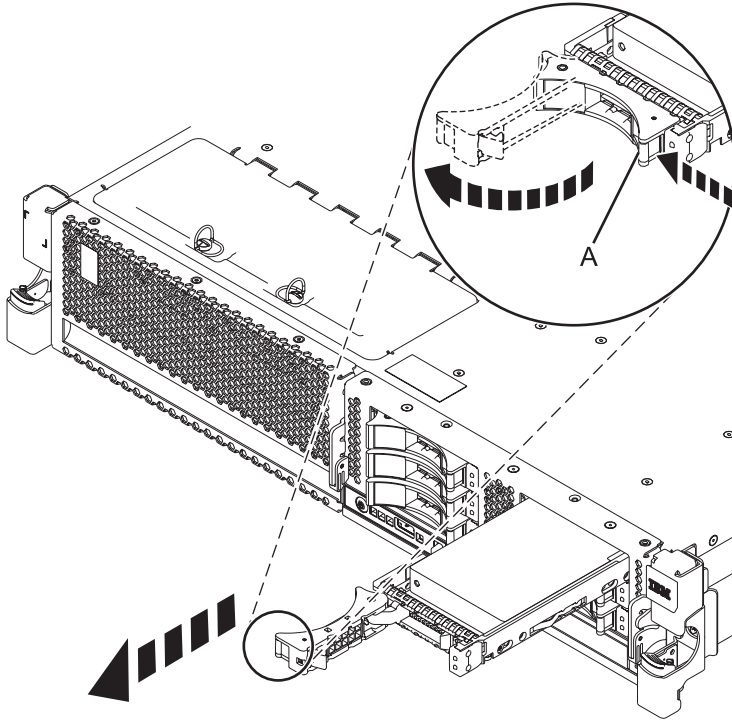

Figure 27. Removing the disk drive from the backplane
- 2) Place one hand under the disk drive and carefully pull the drive out of the system as shown in Figure 27 on page 41.